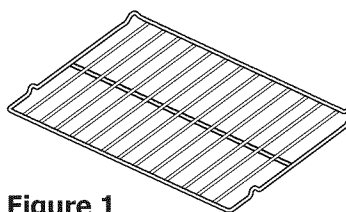

Figure 1
- **Flat handle oven rack** (Figure 1).
The **Flat Oven Handle Rack** has an handle to facilitate the sliding of the rack when large amount of foods weight on it (See Figure 1).